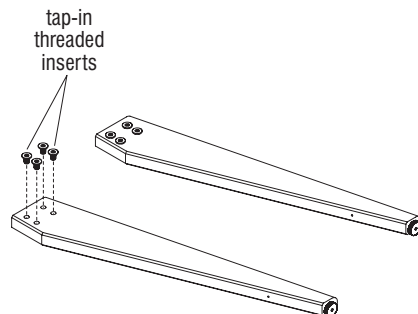

Figure 6 - Intermediate Wood Legs
1. Position the intermediate wood leg uprights to face the same direction on a soft protective surface (Figure 6).
2. Locate the intermediate wood leg upright hardware parts bag which contains eight M8 x 50 connector bolts and tap-in inserts. Making sure the leg uprights are facing the same direction and oriented as illustrated, insert four tap-in inserts into the wood leg upright holes (Figure 6).